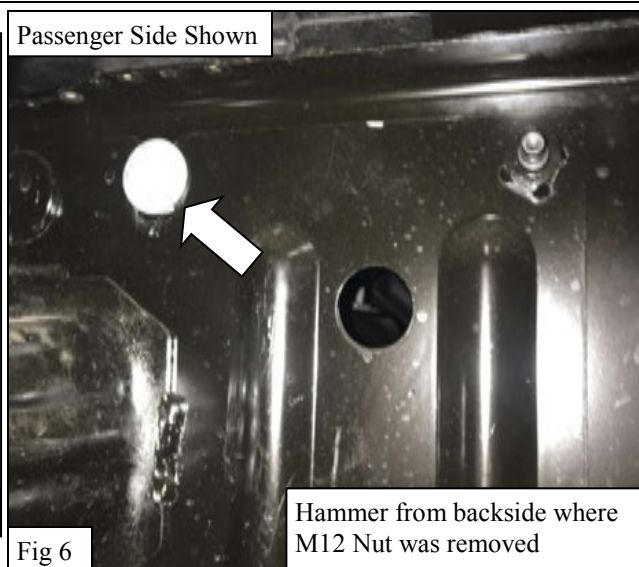

Fig 6
6. Remove the factory M12 nut. Then, use a hammer to punch out the factory carriage bolt. A pry bar may also be helpful. See **Figure 6**.